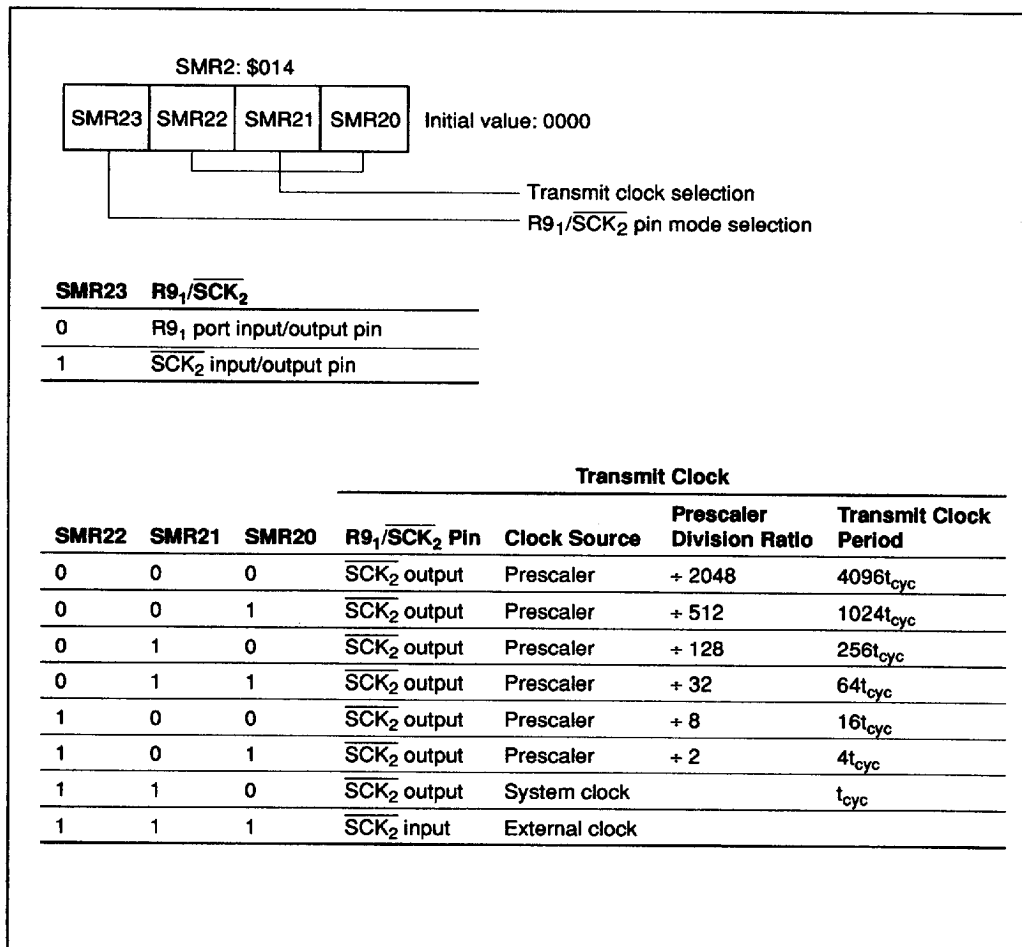

Figure 50 Serial Mode Register 2
**Serial Mode Register 2 (SMR2: \$014):** Four-bit write-only register which controls the  $R9_1/\overline{SCK}_2$  pin, transmit clock, and prescaler division ratio as shown in figure 50. Writing to SMR2 initializes serial interface 2.